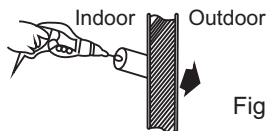

Figure 6
- 3) Drill a 65mm hole in the wall (Figure 6), make sure the hole is inclining to the outside.